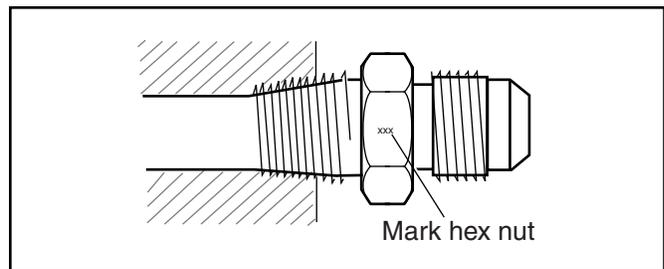

Figure 5.2 Pipe Threads
2. Mark male and female parts. See Figure 5.2.